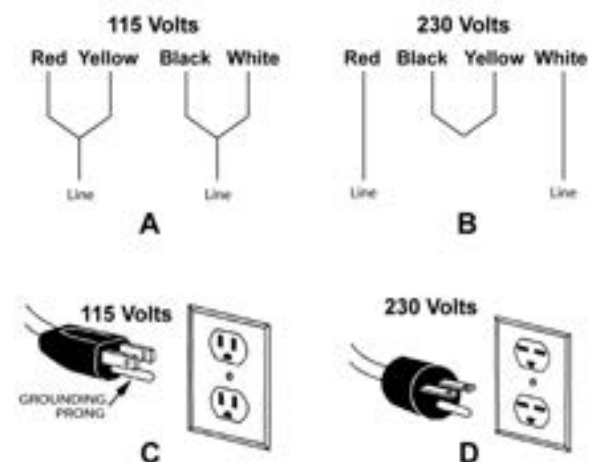

Figure 7-2
Refer to Figure 7-2:
2. The Jointer motor has four numbered leads that are factory connected for 115V operation, as shown in **A**, Figure 7-2. For 230V operation reconnect the leads as shown in **B**.